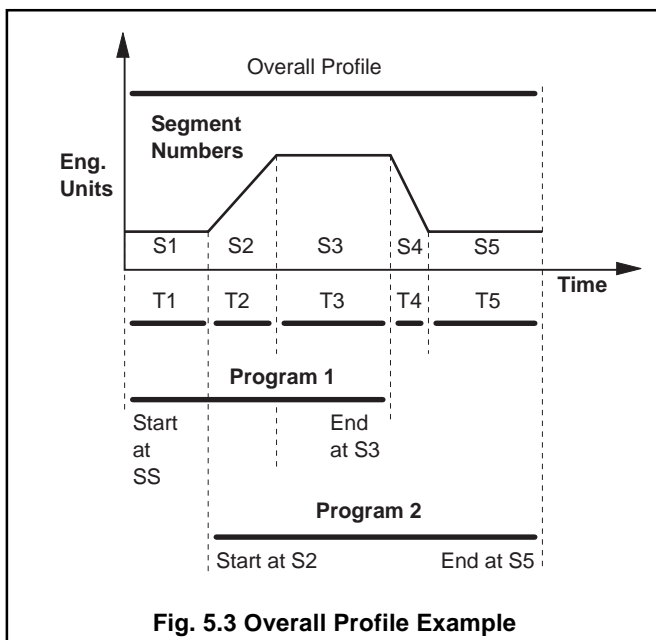

Fig. 5.3 Overall Profile Example
5.1.3 Profile Control – Fig. 5.3